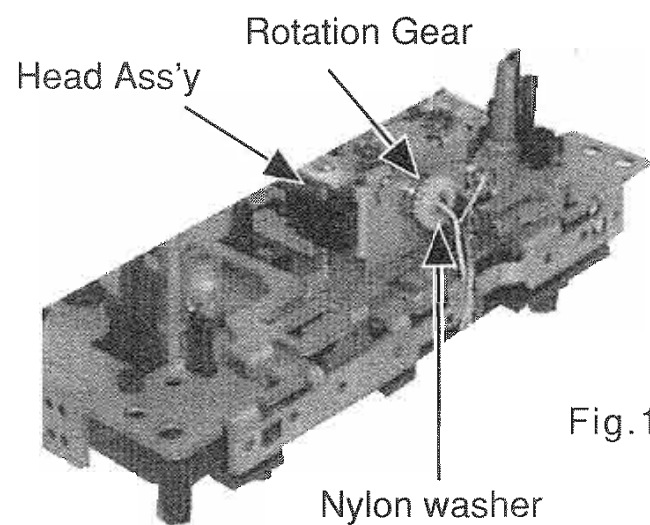

Fig.19b
- 3.Remove the nylon washer (Fig19b).